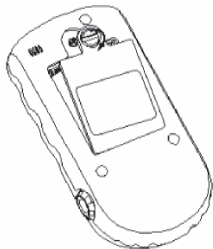

Figure 2-1
1) Open the rear panel with coin or an ordinary flat screwdriver, as shown in Figure 2-1.